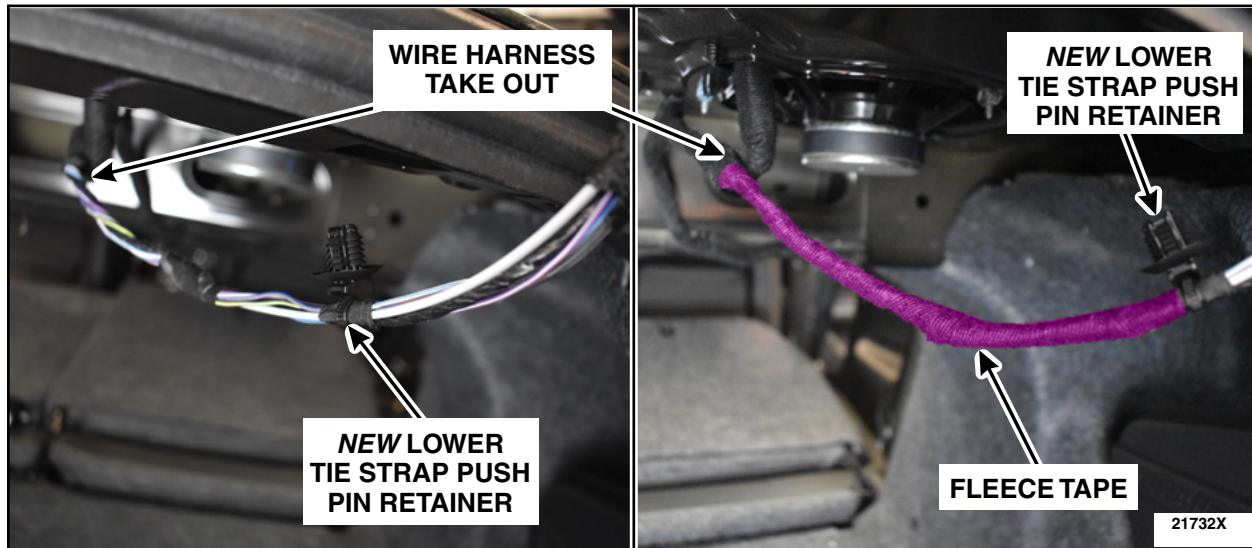

FIGURE 23
32. Wrap the exposed wire harness using Tesa® 51608 PET Fleece or equivalent fleece tape from the wire harness take out to the new lower tie strap push pin retainer. See Figure 23.